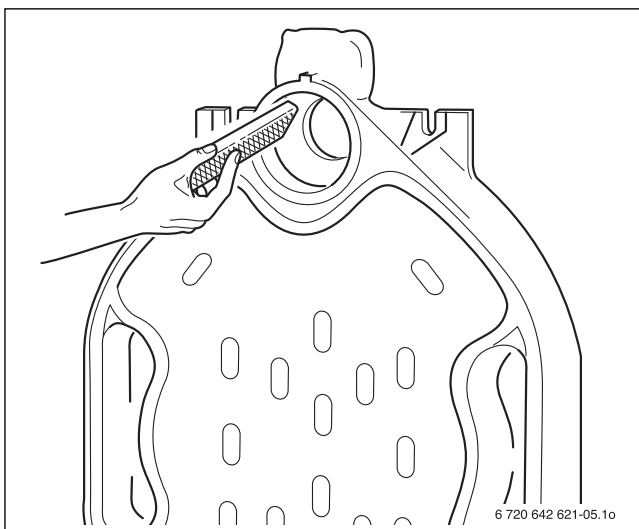

Fig. 9 Remove burrs
- ▶ File down any burrs on the hubs (→ Fig. 9).
- ▶ File down any burrs on the hubs (as shown in Fig. 9).